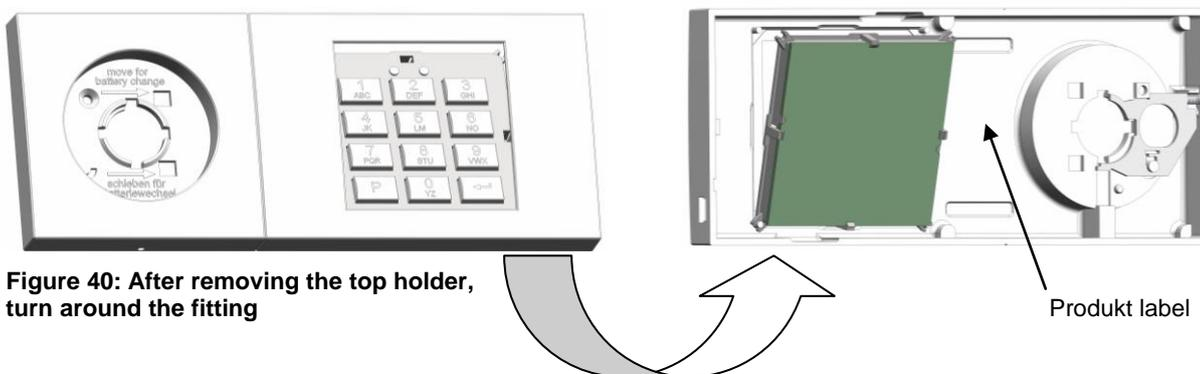

Figure 40: After removing the top holder, turn around the fitting
Remark: Do not mount the keypad sub-assembly in other top parts, because the top parts of the input unit (8) is labeled with the product data label with the corresponding product datas of the keypad sub-assembly (see Figure 40).